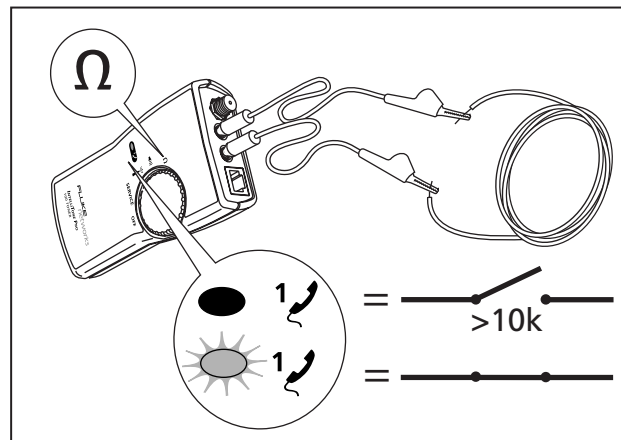

Figure 3. Continuity Test
3. Connect the toner to the circuit or component as shown in Figure 3.
5. The ¹ LED indicates an open or closed circuit as shown in Figure 3.